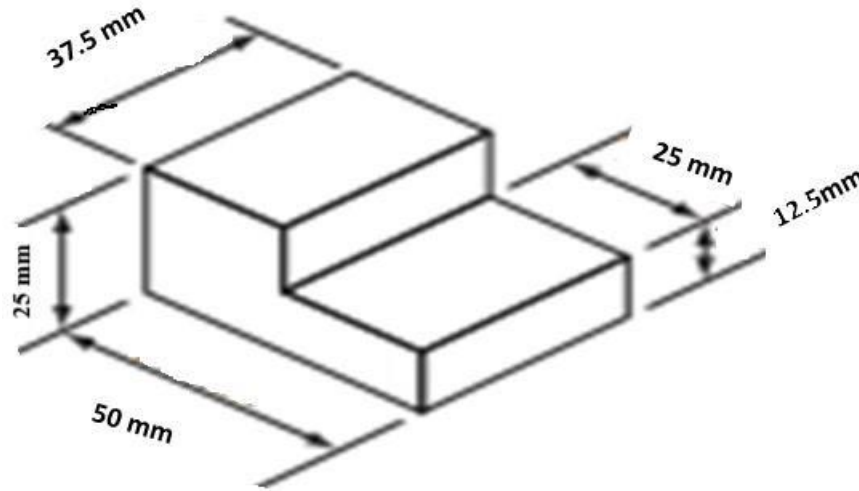

Figure 2
9. Oblique projection is method of pictorial drawing. Copy the block in figure 2 in Oblique projection. (4 Marks)